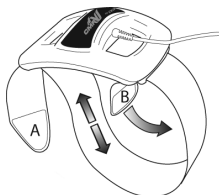

Figure 1
2. Remove Velcro tab "A" and loosen strap. (Figure 1)